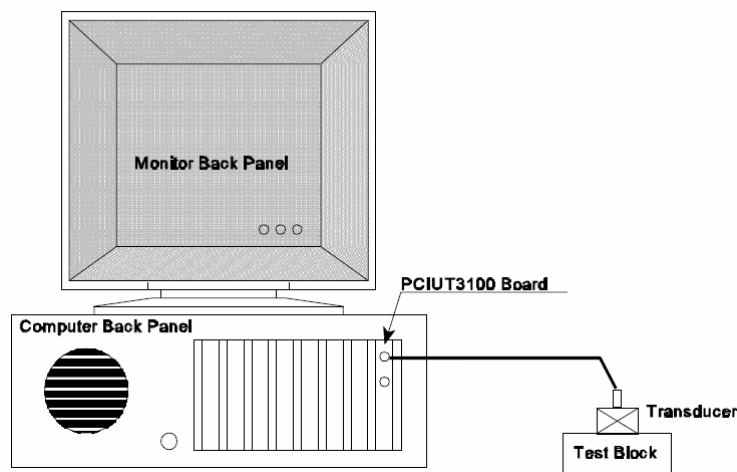

Figure 1. System Configuration in Pulse/Echo Mode
k) Connect the cables as shown in Figure 1 for pulse/echo method